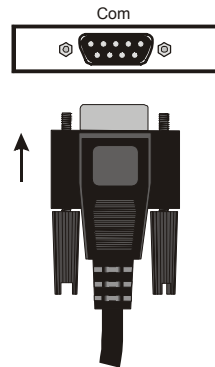

Figure 1-26: PC or Laptop COM Port
- ✓ Connect your serial cable to an available COM port on the back of your computer as shown in Figure 1-26.
- ✓ Connect the COM port adapter either directly to your Board of Education or HomeWork Board, or connect it to the serial cable as shown in Figure 1-26.